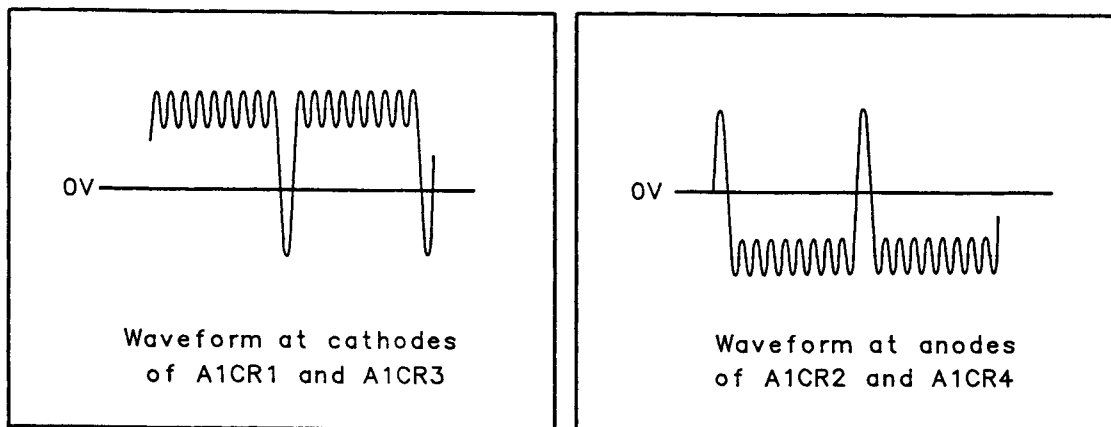

Figure 5-3. Reference-Rate Pulses
The Pulse Generator function block (E) is responsible for the very narrow duty-cycle reference-rate pulses that turn the sampler diodes on and off. See Figure 5-3.
2. Connect a 0 dBm, 10.00000 MHz signal from a synthesizer such as an HP 3325, HP 3335, HP 8662, or HP 8663. (If a house standard is also available, connect it to the synthesizer’s external reference input.) If the PLL error disappears when the external 10.00000 MHz reference is connected to the HP 70310A, there is a problem either in function block (B) of the A1 RF board assembly, or in the A6 Oven/Oscillator assembly.
3. If the PLL error does *not* go away when the external 10.00000 MHz reference is connected, verify that the rear-panel 100 MHz output is approximately 0 dBm. If the rear-panel 100 MHz output power is low, or if there is no output at all, then there is a problem in function block (K) or function block (L) of the A1 RFboard assembly.
4. If the rear-panel 100 MHz output power is correct, remove the module’s right side cover. Then, remove the shield can over the sampler next to A1J4 and A1J5. Use an oscilloscope, and an HP 10017A oscilloscope probe with a spring ground, to verify that there is a 100 MHz sine wave, with an amplitude greater than 0.7 V p-p, at the anode of A1CR1. If the sine wave is *not* present or the amplitude is incorrect, there is a problem in function block (F) or function block (D) of the A1 RF board assembly.
5. If there is a sine wave at A1CR1, verify that there are pulses of opposite polarity at the cathode of A1CR1 and the anode of A1CR2. The pulses should occur at the reference-frequency rate, and should be greater than 5 V p-p. See Figure 5-3. If there are no pulses, trace the signal in the reference path to find the cause.
6. If the pulses are present, check the EXTERNAL REF LED. Connect the signal synthesizer (HP 3325, HP 3335, HP 8662, or HP 8663) to the module rear-panel EXT REF input. Set the synthesizer to 10 MHz at 0 dBm. The EXTERNAL REF indicator on the module front panel should light. If the EXTERNAL REF indicator does *not* light, there is a problem in either function block (A) or (B) of the A1 RF board assembly, or on the A2 Power Supply/Processor board assembly (which controls the internal oven/reference switch). Refer to the EXTERNAL REFERENCE Detector information in the "A1 Diagnostic Detectors" section in the previous pages.
- a. Tune the synthesizer down from 10.0 MHz in 1 Hz steps. At its lowest point, the voltage at A1TP2 should be less than +0.8 V and the frequency of the synthesizer should be less than 9.99996 MHz. If either the voltage or the frequency are incorrect, there is a problem in function block (D), (G), (H), or (L) of the A1 RF board assembly.
- b. Set the synthesizer to 10 MHz again. While monitoring A1TP2 with a DVM, tune the synthesizer up from 10 MHz in 1 Hz steps. At its highest point, the voltage at A1TP2 should be greater than +10.8 V and the frequency of the synthesizer should be greater than 10.00004 MHz. If either the voltage or the frequency is incorrect, there is a problem in function block (D), (G), (H), or (L) of the A1 RF board assembly.
- c. If the frequency is incorrect at either the minimum or maximum point, there is a problem in function block (L) of the A1 RF board assembly.